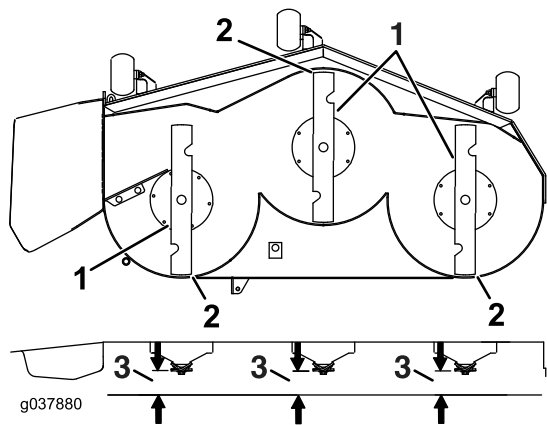

**Figure 101**
7. Measure between the blade tip and the flat surface (Figure 101). If both measurements are not within 5 mm (3/16 inch), adjust the leveling; continue with this procedure.
14. Carefully rotate the blades side to side (Figure 101).